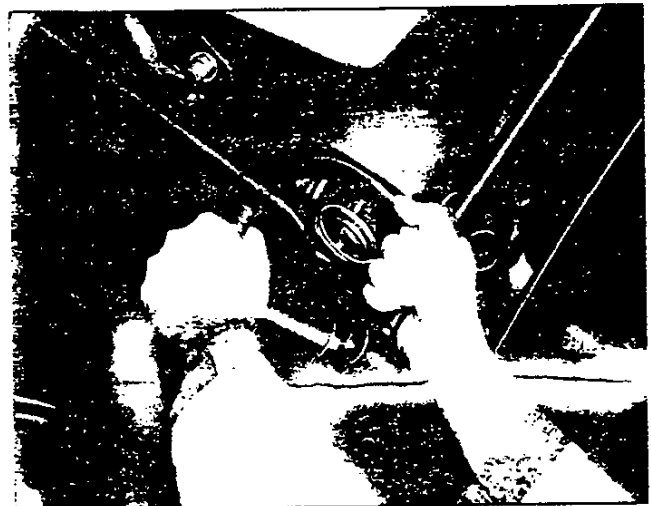

Fig. 13—Removing Strut Rod Shaft
3. Remove strut rod shaft cotter pin and nut. Withdraw shaft by pulling toward front of vehicle (fig. 13).